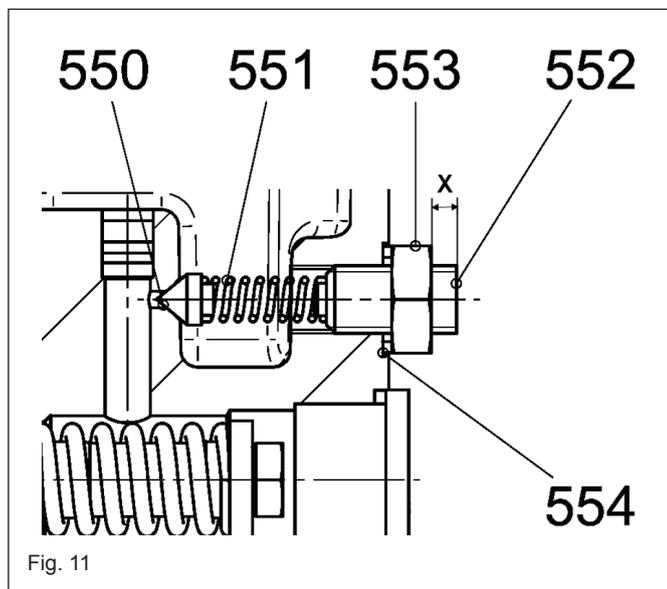

Fig. 11
1. Hydraulic sniffting valve (529) has to be installed.
2. **Measure and note distance "X"** (see figure 11) from the end of the grub screw (552) to hexagon nut (553).
3. Slacken the locking of hexagon nut (553) (do not unscrew completely, otherwise lubricating oil can leak out).
4. Unscrew grub screw (552) until a short oil circulation at low pressure takes place. This may cause air bubbles remaining during the filling procedure to be flushed out.
5. After recycle-pumping for a short time (a few seconds), screw in the grub screw (552) to the originally noted dimension 'X' (see work step 2) and lock it with the hexagon nut (553).